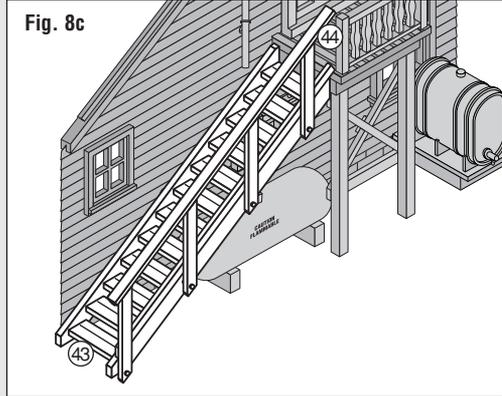

Fig. 8c
- Glue Stairs (43) to Back Wall, then glue Stair Railing (44) to Stairs (Fig. 8c).